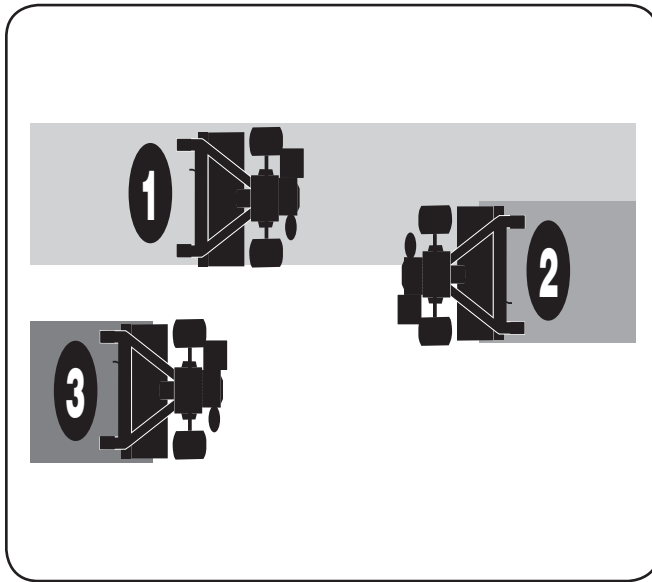

Figure 5-7
- If the garden size will not permit lengthwise and then crosswise tilling, overlap the first passes by one-half a tiller width, followed by successive passes at one-quarter width. See Figure 5-7.